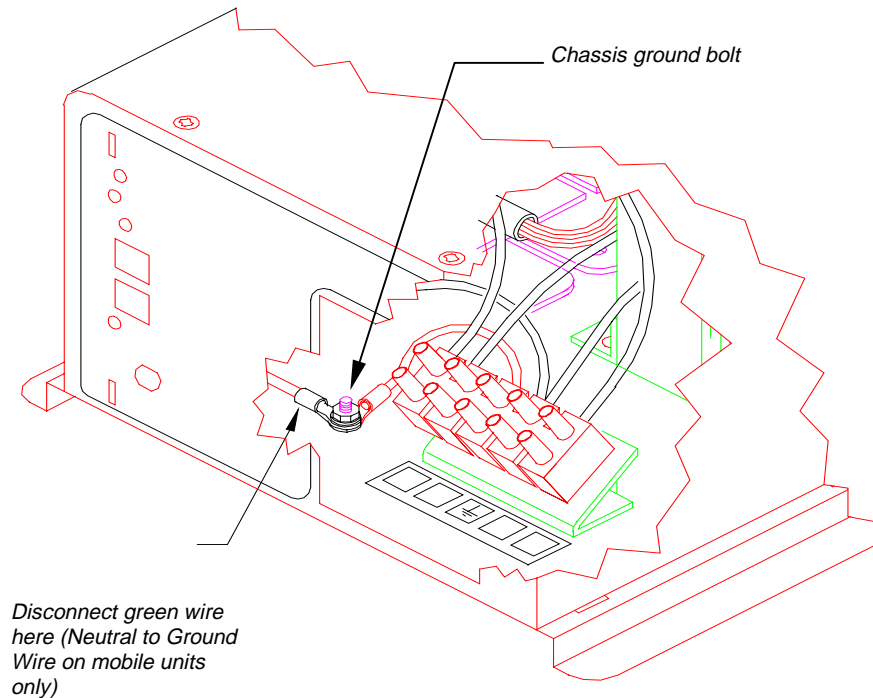

Figure 21, Disabling Neutral Ground Switching
4. Locate the **green** wire that runs from the circuit board to the chassis ground bolt as shown in *Figure 21, Disabling Neutral Ground Switching* below. Pull this wire from the circuit board quick-disconnect ground terminal and from the chassis ground bolt.